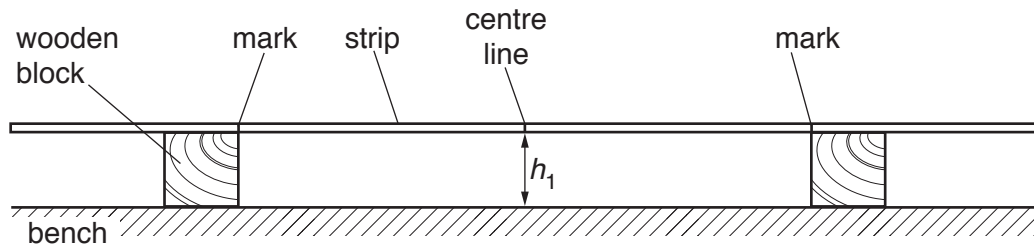

Fig. 2.3
- (b) (i) Place the strip on the two wooden blocks with the inner edges of the blocks at the marks, as shown in Fig. 2.3.
- (ii) Measure and record the height h_1 of the **bottom** of the strip at the centre line, as shown in Fig. 2.3.